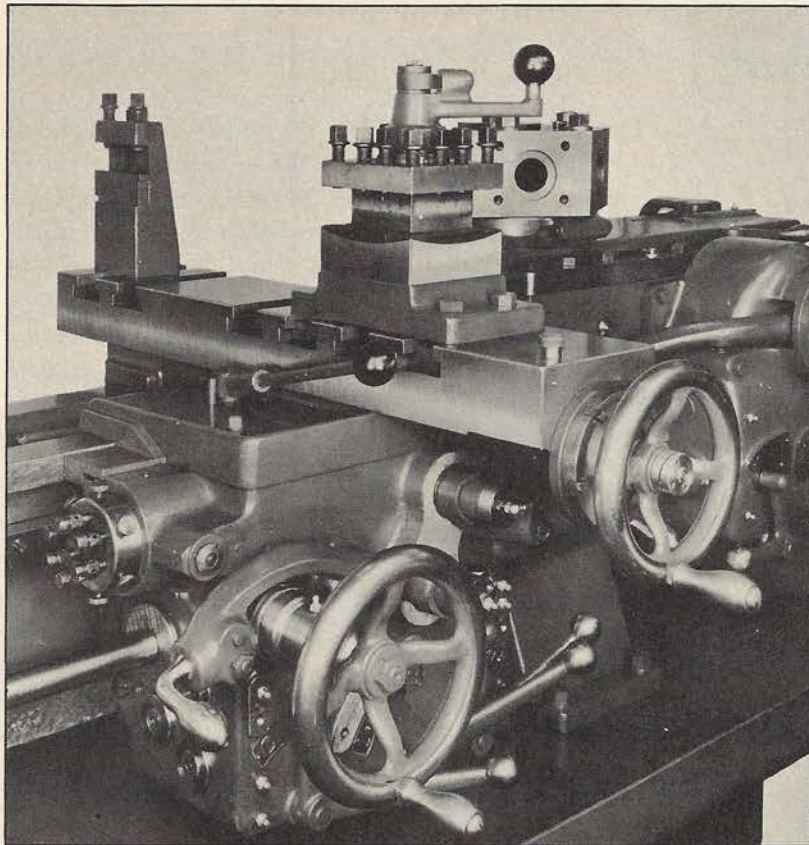
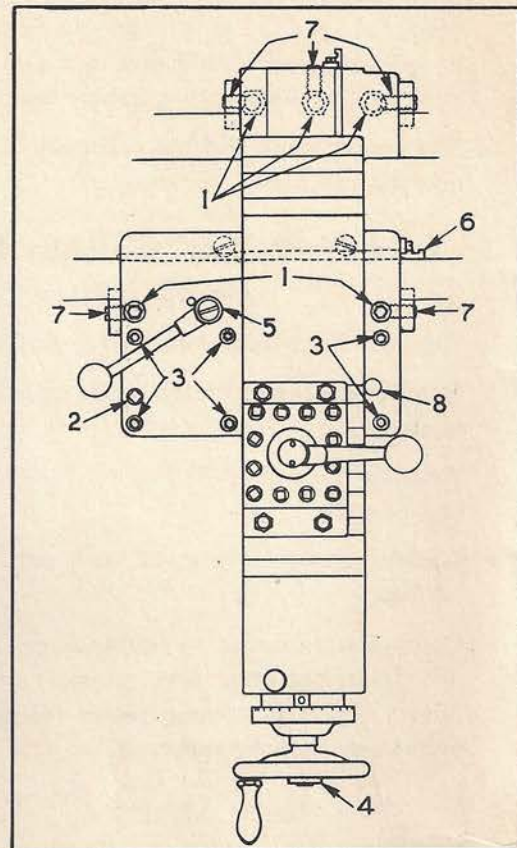

Fig. 19. Universal Cross Slide Carriage
Fig. 20. Top View of Cross Slide
The Cross Slide Carriage, Fig. 19, is gibbed to the inside of the front rail of the bed with a taper gib (6) Fig. 20. In addition, caps are fitted to the front and rear, which bear on the under side of the bed rails.
2. Release the bed clamp, remove its handle and unscrew the bolt (5) Fig. 20.
3. Remove the taper gib (6) Fig. 20.
4. Remove the five cap screws (1) Fig. 20, taking care to loosen first the slotted head set screws (7) which lock cap screws in place.
5. Remove the cross slide to reduce the weight to be handled. To do this, unscrew nut (4), remove handle and dial, and then pull cross slide off by hand. If it moves too hard, loosen its taper gib at the rear.
6. Loosen dowel (2), by twisting its head.
7. Remove the six bolts (3), which hold the apron
to the carriage, and the latter can then be lifted off. Be sure to raise carriage high enough to avoid bending the cross feed knockout plunger (8) Fig. 20.
Proceed in the reverse order of instructions for removing it. Clean out the oil channels carefully before doing so and finally be sure to lock the bolts (1) Fig. 20, after adjusting the caps. In lowering the carriage on the apron, be careful not to bend the cross feed knockout plunger (8).